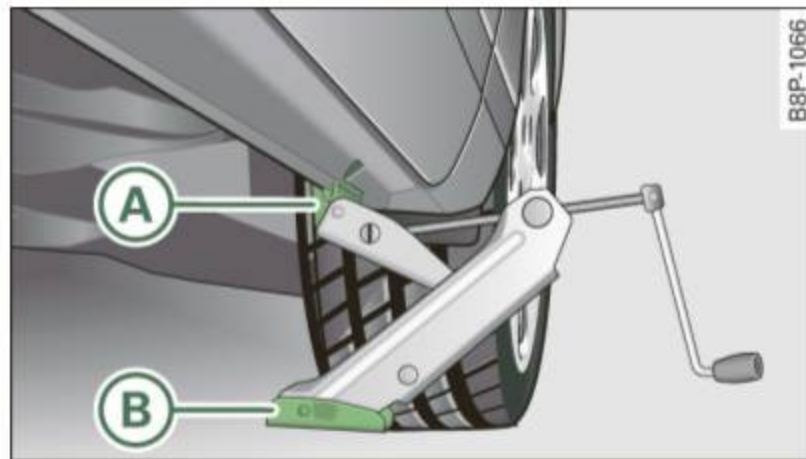

Fig. 208 Close-up:
- Align the jack so that the jack arm claw ⇒ fig. 208 (A) fits snugly around the underbody rib and the movable base plate (B) sits flat on the ground.